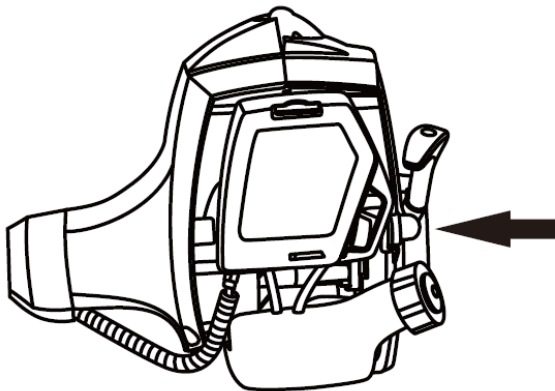

Fig.7
- 1) Press the fuel pump several times until it fills with fuel. (fig.7)